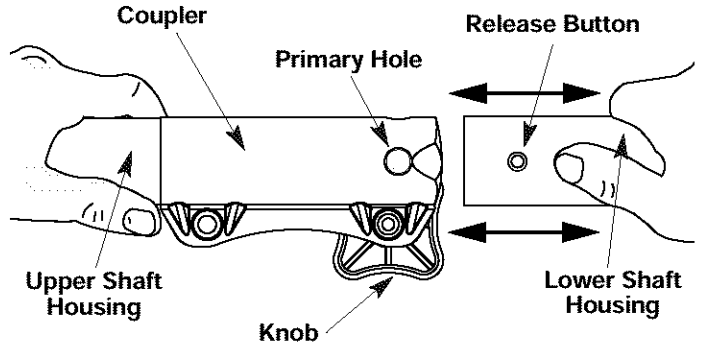

Fig. 2
3. While firmly holding the upper shaft housing, pull the snow thrower attachment out of the coupler (Fig. 2).
3. While firmly holding the add-on, push it straight into the coupler (Fig. 2).
CAUTION: Lock the release button in the primary hole (Fig. 2) and securely tighten the knob before operating this unit.